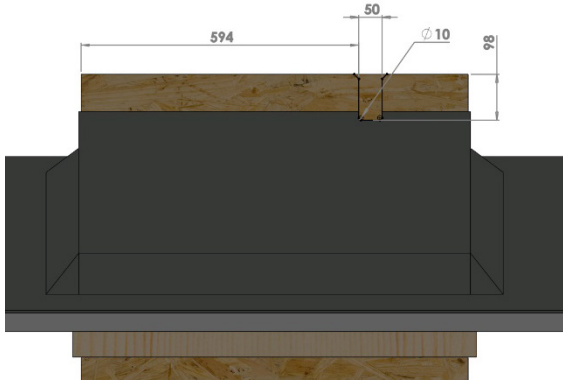

Figure 34 – Heat exchanger position.
1. Mark out shape as per diagram – *see figure 34.*